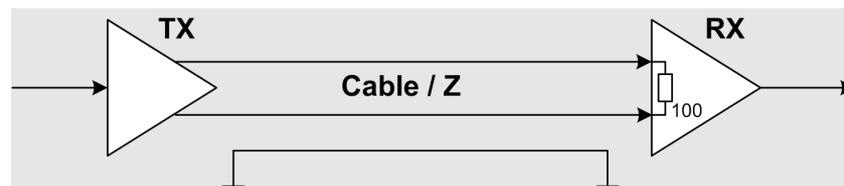
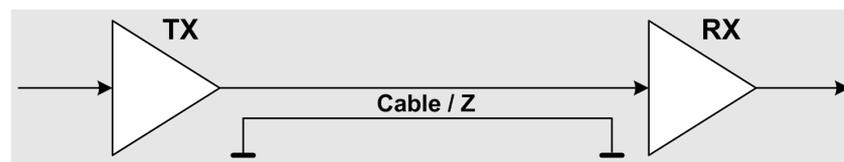

Figure 65: Differential data transmission
Figure 66: Single-ended data transmission
Figure 65 and Figure 66 show the essential components for a data transmission path. A source (TX) that usually has a low impedance feeds a cable that typically has a characteristic impedance (Z) of 100 ohms. There is a receiver (RX) at the end of the cable.